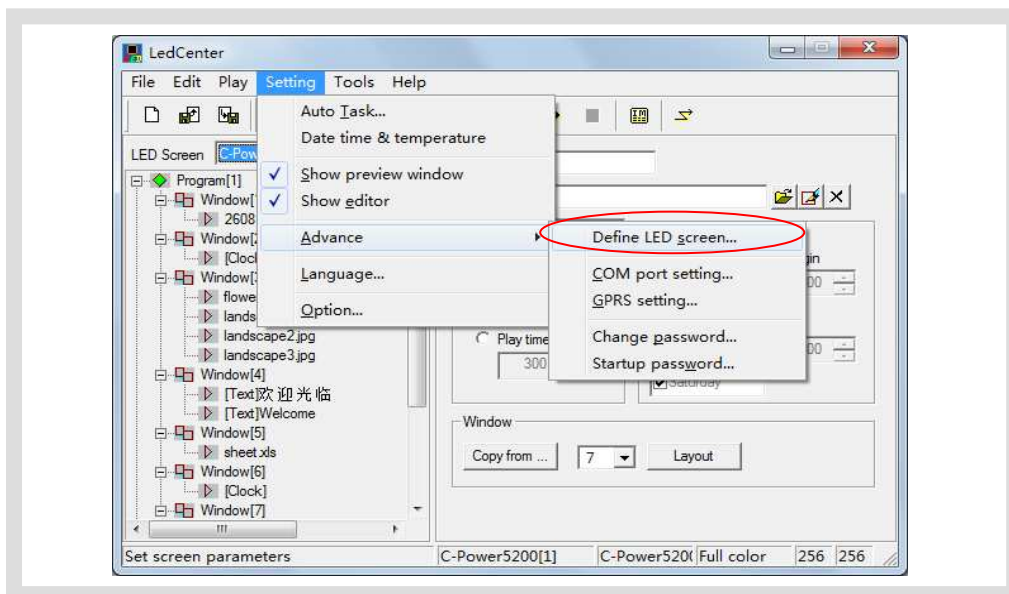

Figure2 Go to “Define LED screen”
- 1) Click “Setting” – “Advance” – “Define LED screen”, as shown in Figure2.